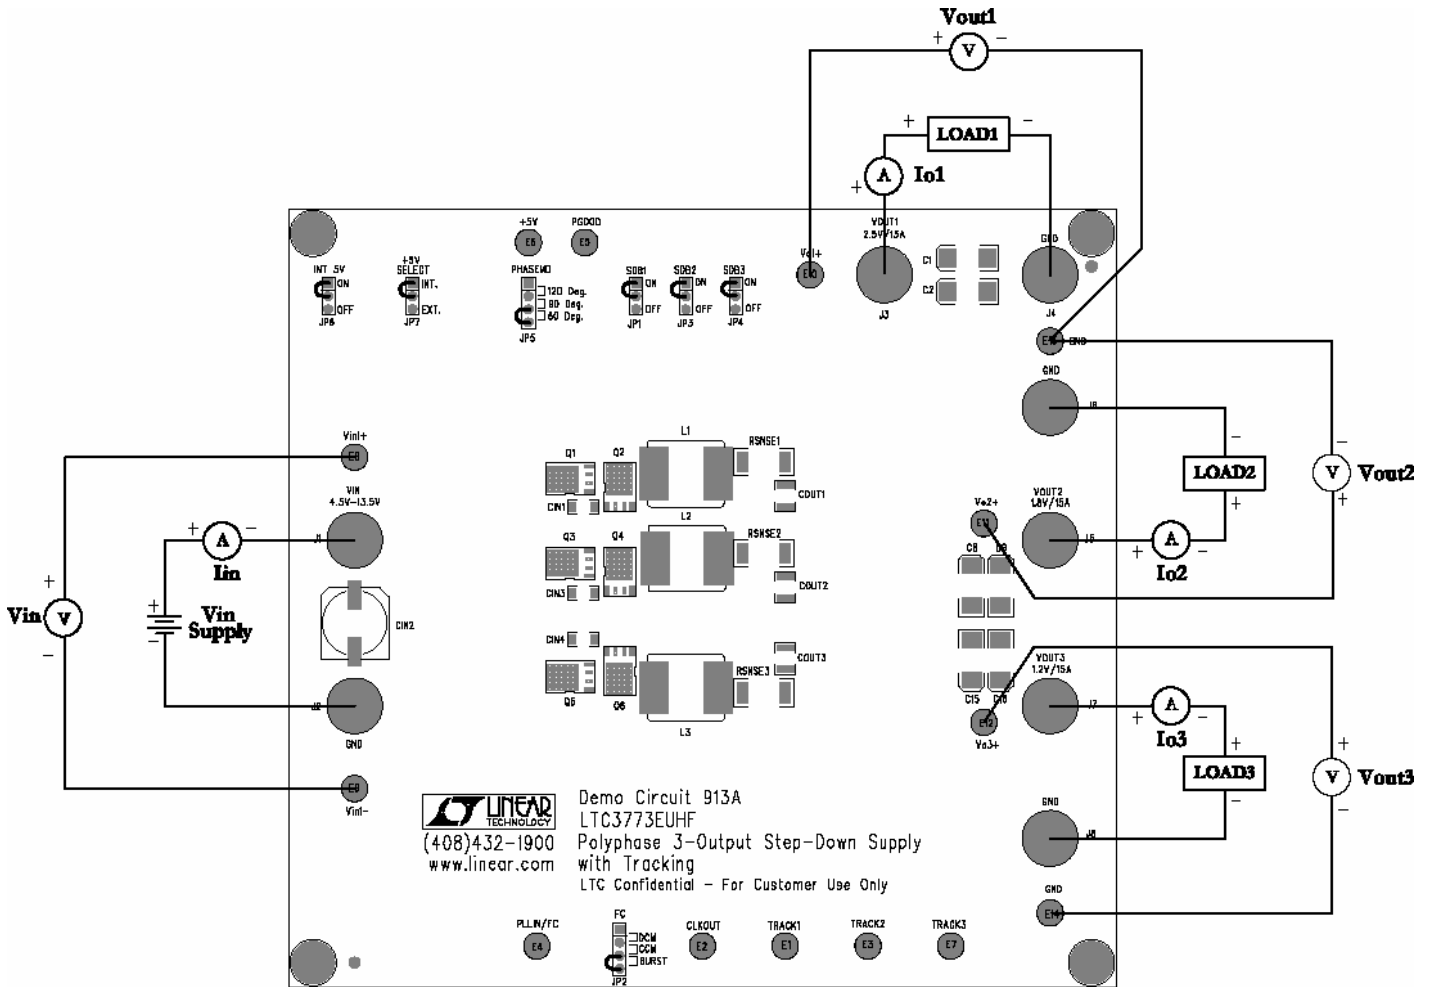

Figure 1. Proper Measurement Equipment Setup
Demonstration circuit 913 is easy to set up to evaluate the performance of the LTC3773EUHF. Refer to Figure 1 for proper measurement equipment setup and follow the procedure below:
- With power off, connect the input power supply to VIN and GND. Connect the loads between VOUT1, VOUT2, VOUT3 and GND. Preset the load current at 0A (minimum). Refer to Figure 1 for correct test set up.